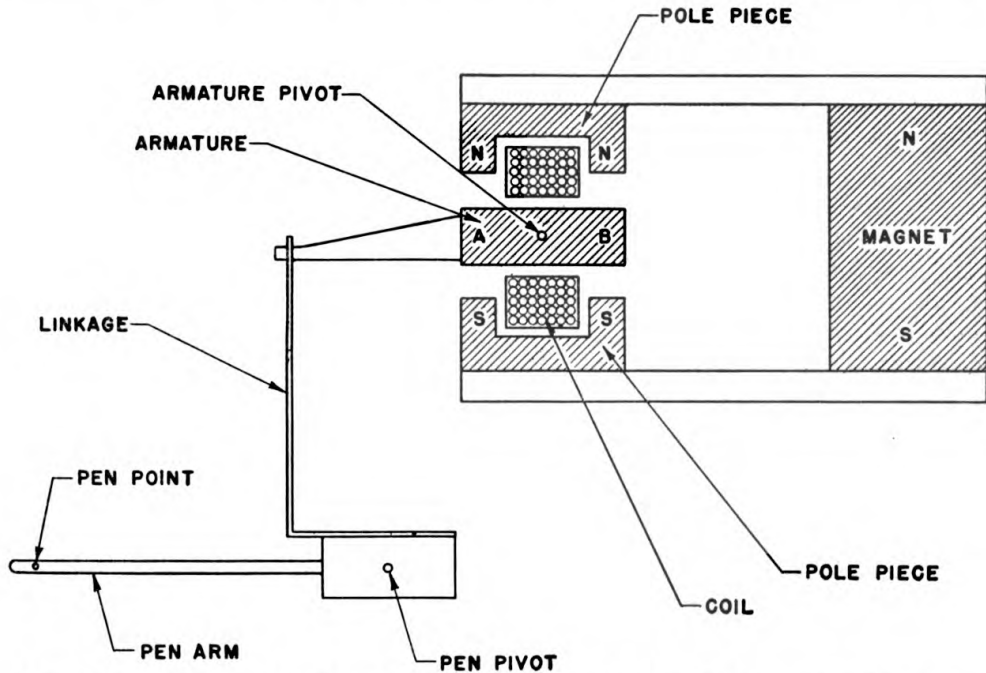

Figure 10—Recorder BC-1016, Pen Drive Unit—Operational Diagram.
e. During the time when no signal is received at the recorder input the resultant bias on the grid of tube 6 is negative to the point of cut off so that no current flows in its plate circuit. At the same time, tube 5 is biased to a very low negative value and current flows in its plate circuit through one half of the coil of the pen drive unit (33). Under these conditions the armature is so polarized that end A is north and B is south (FIG. 10). The resulting magnetic force moves the pen away from the panel to what is known as the space side of the tape.
f. When a signal is applied to the input of the recorder the above action takes place in the opposite direction, the grid of tube 5 being negatively biased to a high value and that of tube 6 to a low value. Current then flows in the plate circuit of tube 6 and through the opposite half of the coil of pen drive unit (33). This reverses the polarity of the armature so that end A is south and B is north (FIG. 10), and the pen moves toward the panel to the mark position.
**13. SLOPE CONTROL.**—The SLOPE control (25) functions to adjust the minimum bias voltage on the grids of the pen driving amplifier tubes (5 and 6), varying the amount of current which flows in the anode circuits of these tubes and, consequently, the amount of power the pen drive unit receives. The rate of travel of the pen across the surface of the tape is determined by the amount of power applied to the pen drive unit; it is possible to vary the slope of the characters by means of this control.
**15. KEY.**—The key terminals (44) are arranged so that the closing of the key removes the bias from the input grid of tube 3. This initiates the same trigger action as results from the application of a signal to the recorder input.